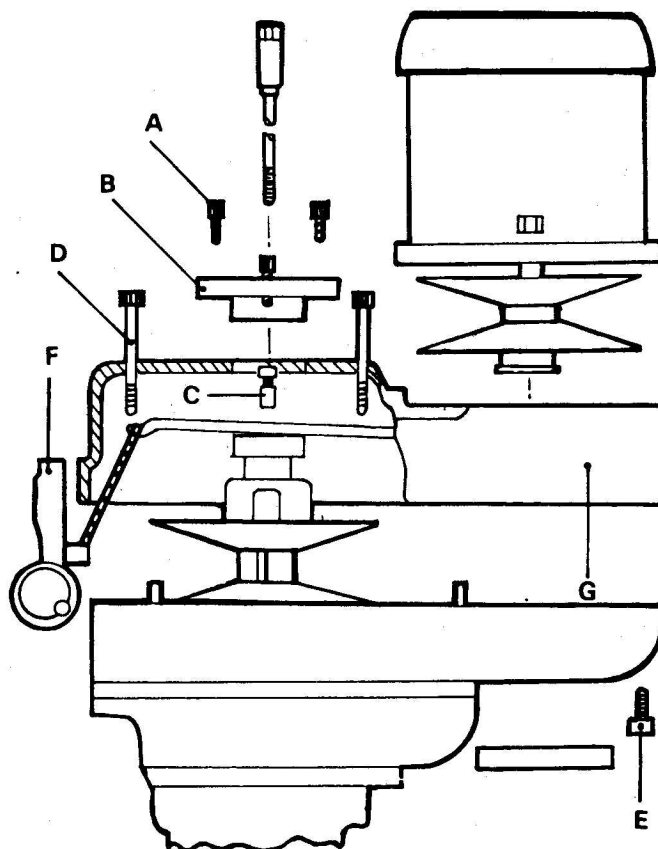

Figure 12. Removing the Vari-Drive Belt
## CHANGING VARI-DRIVE BELT (Figure 12)
Complete the above procedures for removing the motor, then remove the three screws (#1 page 38) (A, Figure 12) and lift out the top bearing cap (#2 page 38) (B). Looking down inside of the housing, locate and remove two socket head cap screws (#17 page 38) and sleeves (#19 page 38) (C). Next, remove the four screws (#6 page 38) (D) and the screw (#55 page 38) (E) holding the belt housing (G) to the base (#53 page 38). Unscrew and remove the two lower screws (#25 page 36) in the speed changer bracket just below the speed dial (#2 page 36) (F).